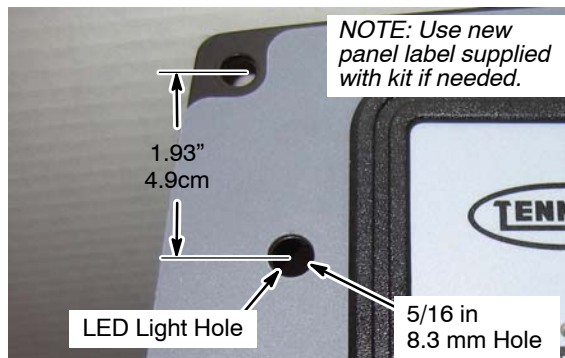

Fig. 8
6. Locate the LED light hole under the panel label and cut away the label material as shown (Figure 8).